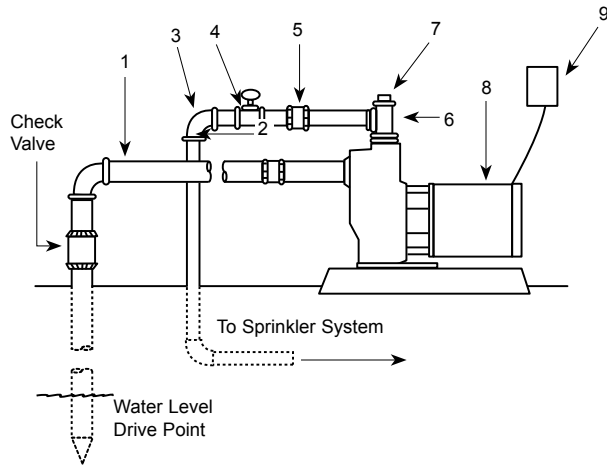

Figure 3 — From Ground Water “Drive Point”
1. Refer to Figures 3, 4, 5, and 6 for typical installations. If galvanized pipe is used, both the